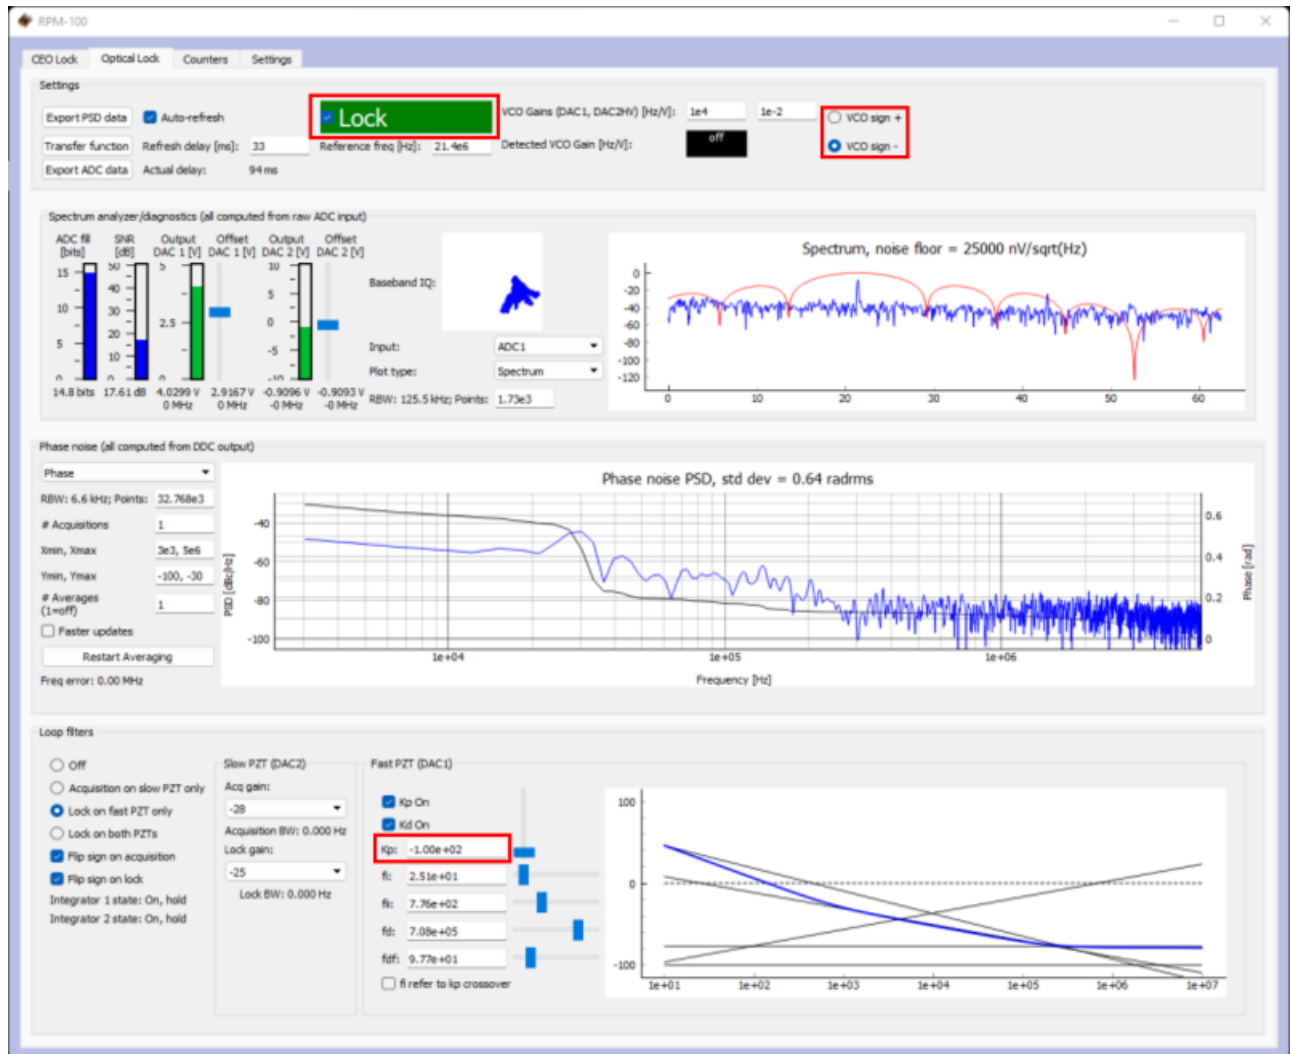

Fig. 12: Locking f_{opt}
4. Press the “Lock” button (figure 12, top middle). If the system doesn’t lock, change the VCO sign to the opposite polarity (top right) and try again. A warning may occur if the selected VCO sign is incorrect. If the system still won’t lock, try lowering the K_p value (bottom center).
6. Adjust PID settings (bottom of figure 10 and figure 12) as needed to lower the integrated phase noise of each parameter (f_{CEO} and f_{opt}). The default settings provided in the software are tuned for your specific device but tweaking the values can often improve performance based on the noise characteristics of your environment.